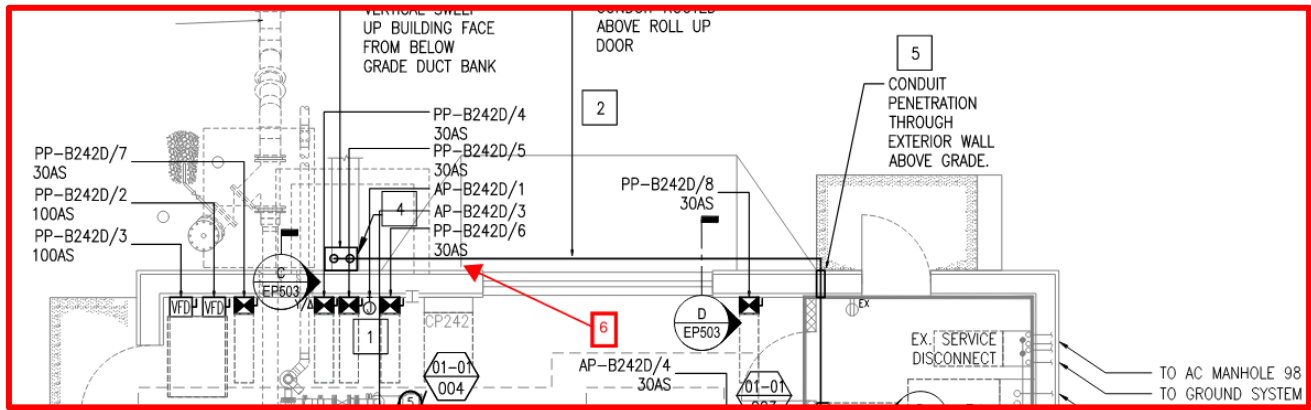

Figure 1 (Refer to Item 12)
- a. 1. Limits of in-scope vs out of scope. The red Line indicates the new limit of the Scope of work for the contract. Note that PP-B242D, XFMR-APD242D and AP-B242D are included in this contract. (See Figure 1 at the end of this Memo.)